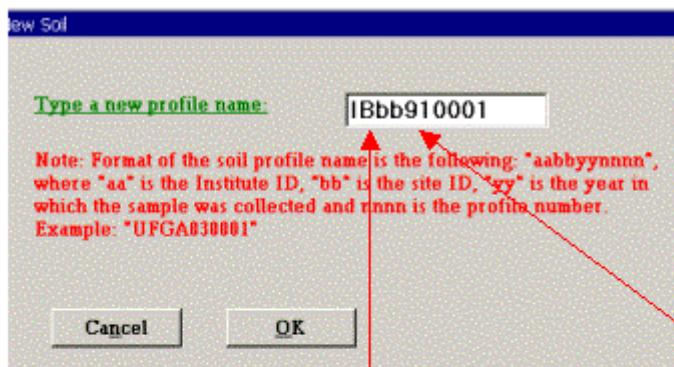

Figure 5. A soil profile **Save As** screen.
- **Save As:** Saves the opened profile with a selected name. The name of the profile has predefined format of 10 characters (Fig. 5). This is "aabyyynnn", where: